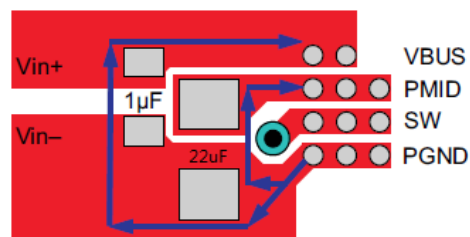

Figure 51. Input capacitor position and PCB layout example
5. Place $22\mu\text{F}$ input capacitor as close to PMID pin and PGND pin as possible to make high frequency current loop area as small as possible. Place $1\mu\text{F}$ input capacitor as close to VBUS pin and PGND pin as possible to make high frequency current loop area as small as possible (see Figure 51).